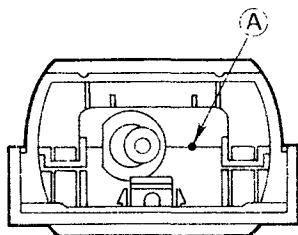

Fig. 1
3. If the body block can not be disassemble, insert the slotted screwdriver about 1/4" (6mm) into the body at points (A). (See Fig. 1)